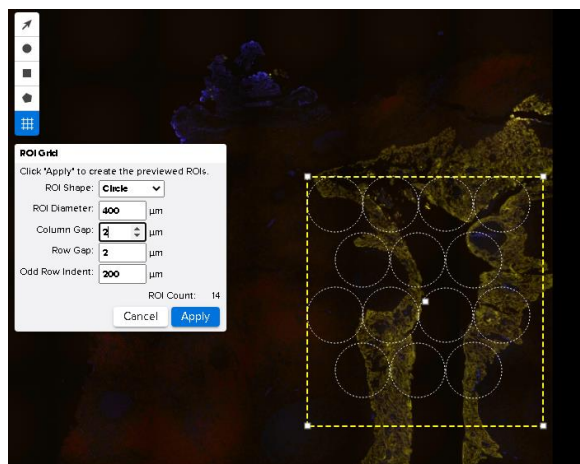

Figure 27: Grid ROIs tool
1. **Select the Grid ROIs tool** in the Scan Workspace (see Figure 27).